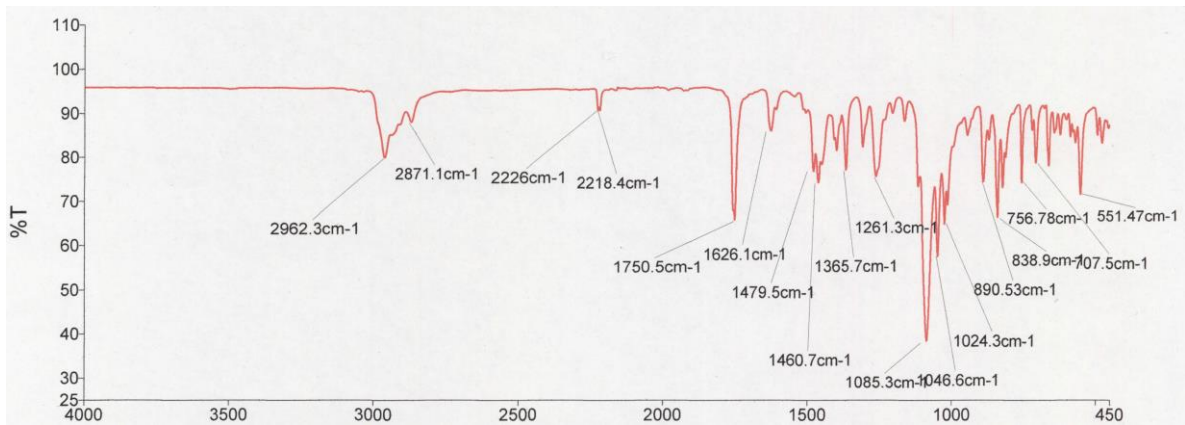

Figure 1 Infrared Spectrum of cyenopyrafen
2.2 Infrared. Apply sample to IR spectrophotometer and scan the sample directly from 4000 to 450 cm^{-1} to determine by ATR method. The spectrum produced from the sample should not differ significantly from that of the standard (Figure 1).